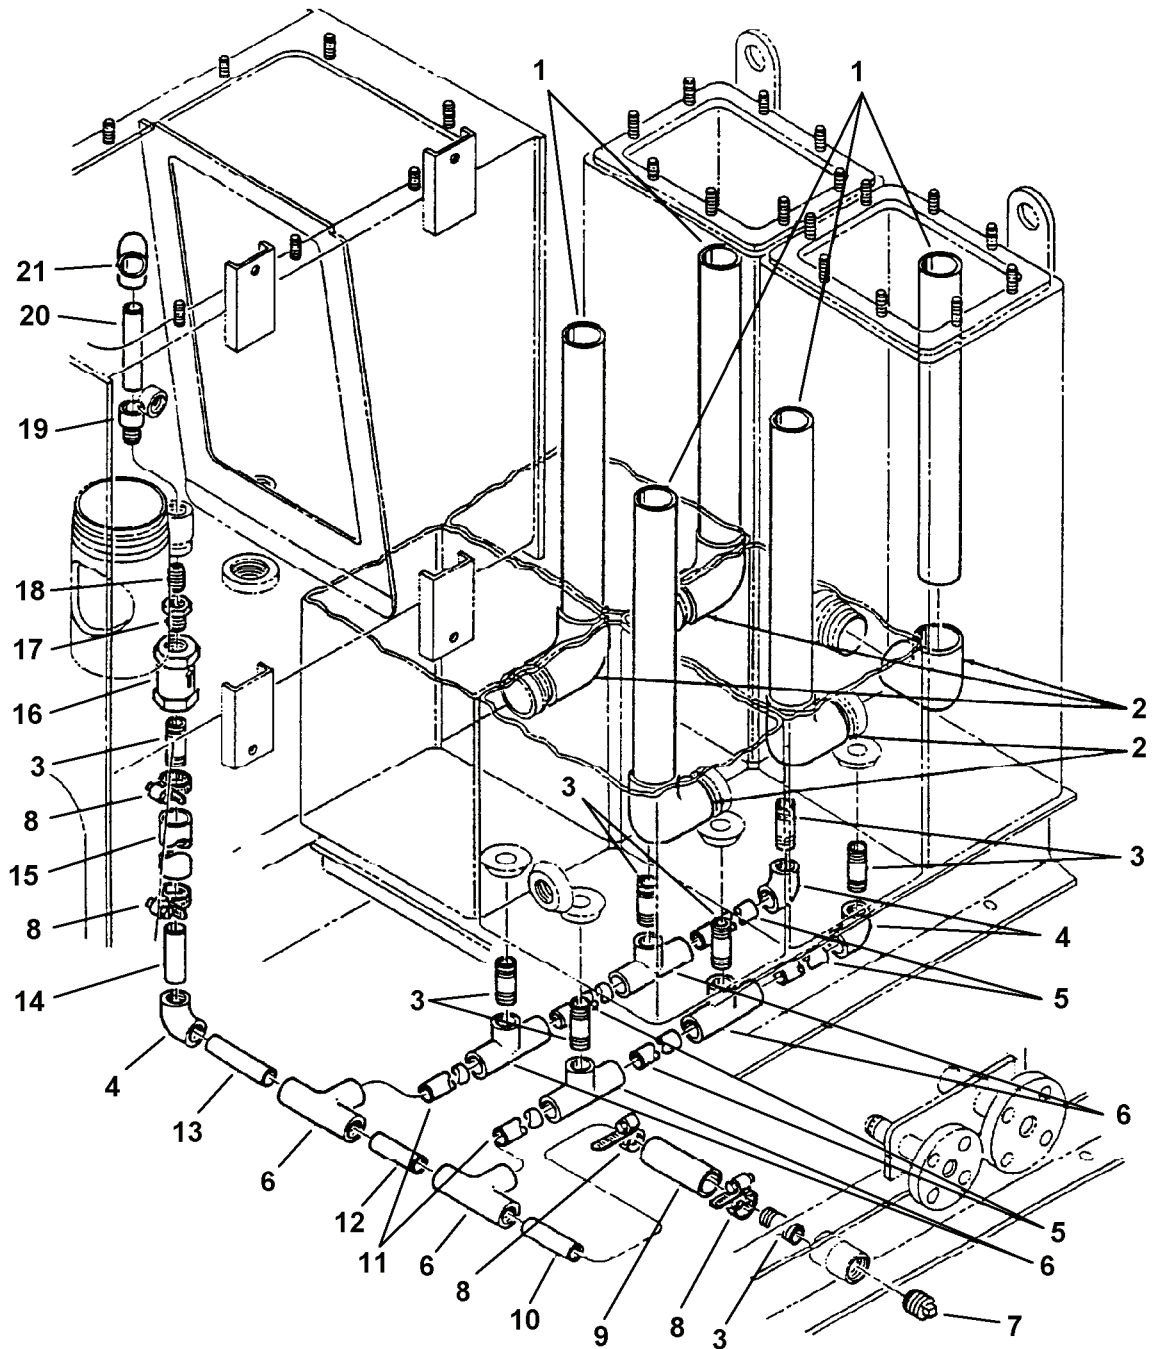

Figure 2-25. Flow Piping Assembly Group.
- a. Removal of the Flow Control Valve (Figure 2-25); proceed as follows:
- (1) Place container under pipe plug (7) to catch remaining bleach or effluent.
- (2) Remove pipe plug (7) and allow complete draining of piping system.
- (3) Loosen two hose clamps (8) from non metallic hose (15) and remove hose.
- (4) Disconnect nipple pipe (3) from flow control valve (16).
- (5) Disconnect flow control valve (16) from pipe bushing (17).
- b. Removal of the piping assembly (Figure 2-25) proceed as follows:
- (1) The upper section of piping (17, 18, 19, 20 and 21) can be disconnected after the flow control valve (16) is removed.
- (2) The lower section of piping (14, 4, 13, 6, 12, 11, 3, 5 and 10) can be disconnected after removal of the two hose clamps (8) from the applicable non metallic hoses (15 or 9).
Repair is by replacement of the Flow Control Valve, damaged or worn associated piping (Figure 2-25):
- a. To replace the Flow Control Valve (Figure 2-25) proceed as follows:
- (1) Connect flow control valve (16) to pipe bushing (17).
- (2) Re-connect nipple pipe (3) to flow control valve (16).
- (3) Re-connect non metallic hose (15) to nipple and pipe (14).
- (4) Move hose clamps (8) over hose and tighten.
- (5) Replace pipe plug (7).
- b. To replace the upper piping assembly (Figure 2-25) proceed as follows:
- (1) Re-connect the piping (17, 18, 19, 20 and 21).
- (2) The applicable lower section of piping (14, 4, 13, 6, 12, 11, 3, 5 and 10) can be reconnected and reconnect the two hose clamps (8) to the applicable non metallic hoses (15 or 9).